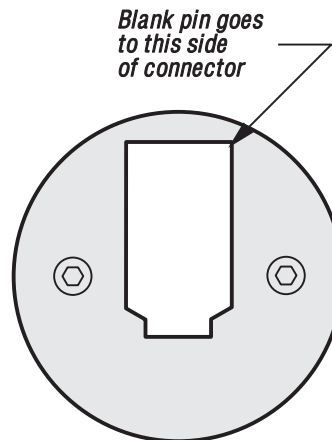

Figure 5-2. Jog handle encoder.
- Unplug the cable leading to the jog handle encoder. **IMPORTANT!** The blank pin side of the connector must face as shown in Fig. 5-2 when reconnecting; otherwise, damage may occur to the machine.